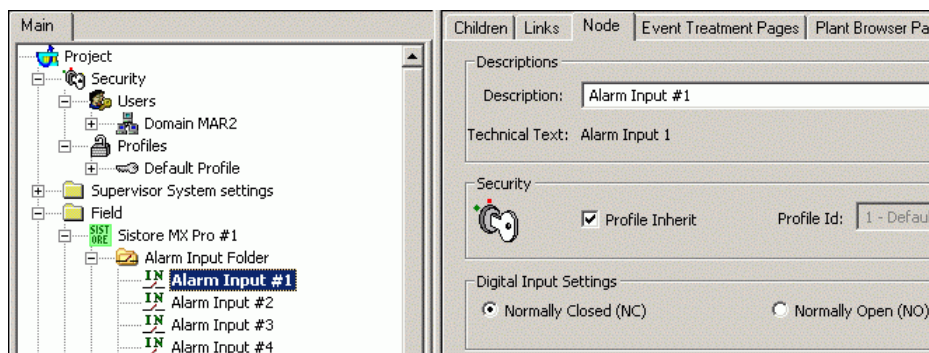

Fig 22 Connecting SISTORE to monitors
5. Set NO or NC logic (Fig 22).